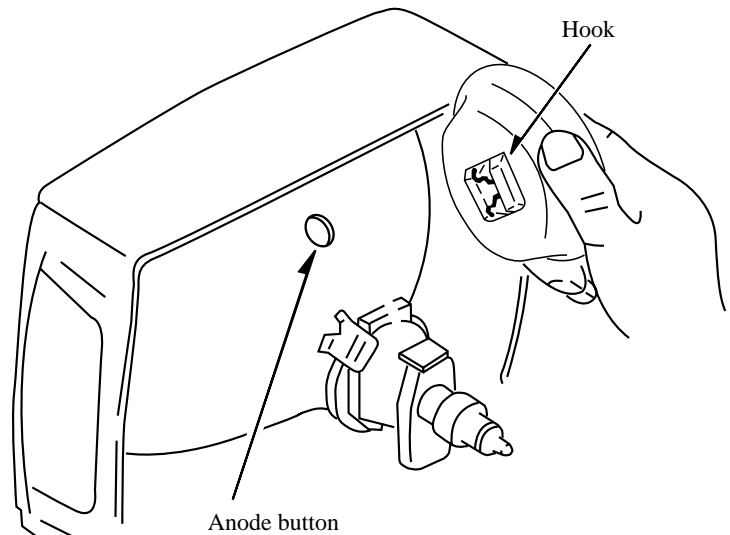

Fig. 3-6
- (6) Apply the hook on one side to the anode button as shown on the figure. (See Fig. 3-6)